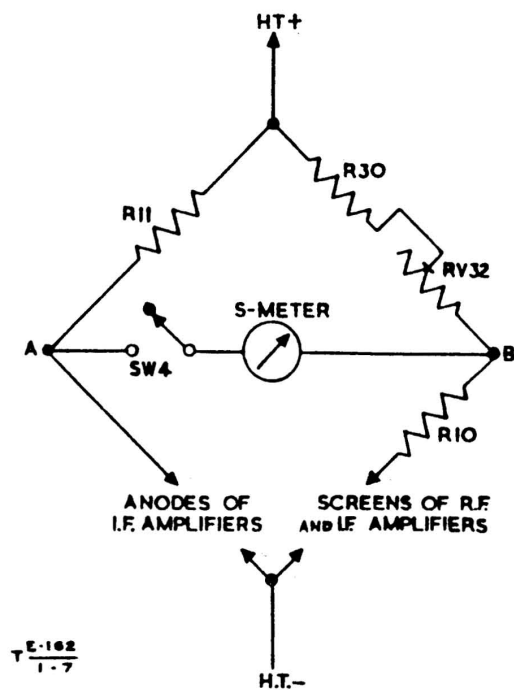
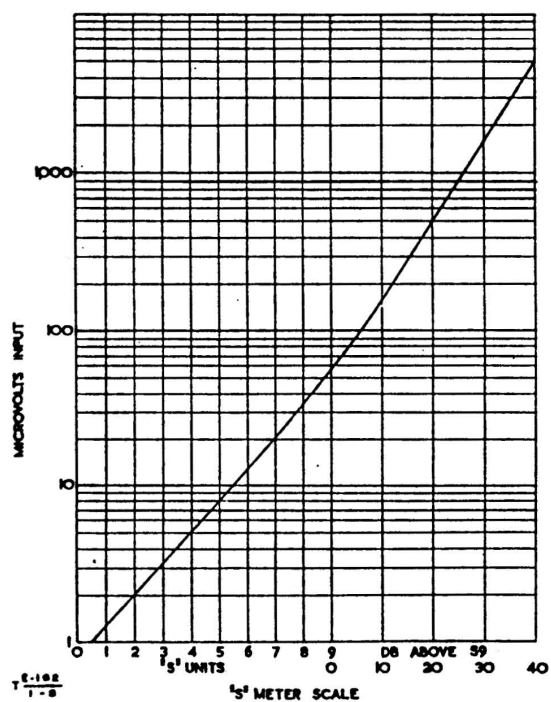

Fig 7 - S-meter, circuit detail
Fig 8 - S-meter, sensitivity curve
28. The S-meter operates in a bridge circuit (see Fig 7). It is calibrated in S-units and db above S9. The bridge circuit is initially balanced by R32, so that the meter deflection is zero under no signal conditions with the R.F. gain control set to 9.5. Fig 8 shows the relation between meter readings and the actual signal input to the receiver in microvolts. It will be seen from Fig 8 that each S-unit is equal to a change of approximately 4db. The 40db range above S9 level is used for comparative checks on extremely strong signals.